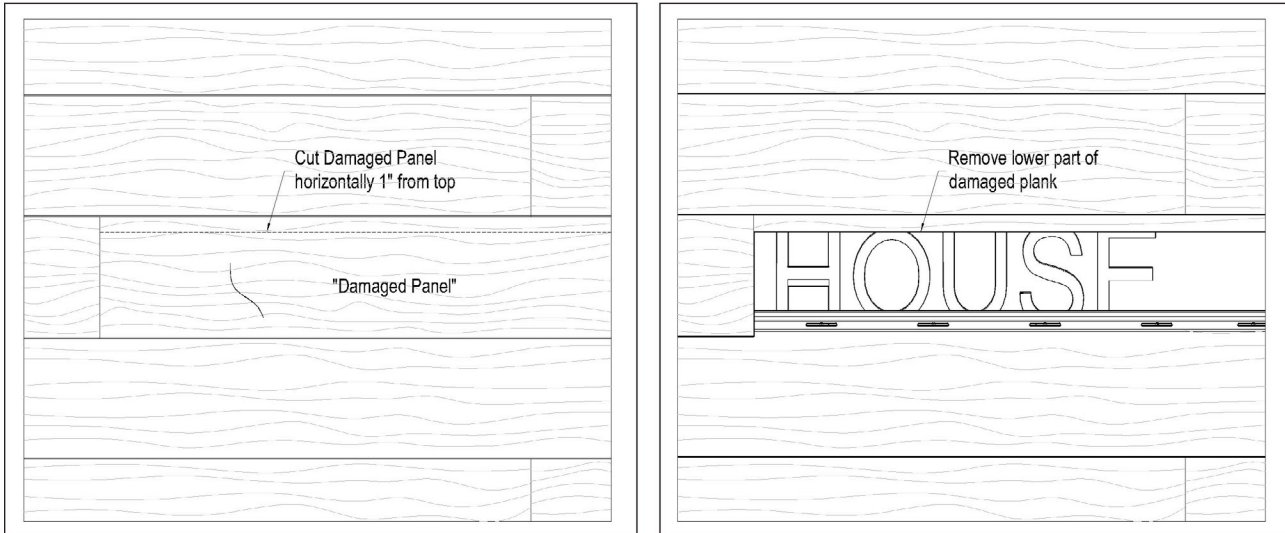

Figure 9
- Carefully cut the damaged plank horizontally, 1" from the top and remove the lower section (Figure 9).